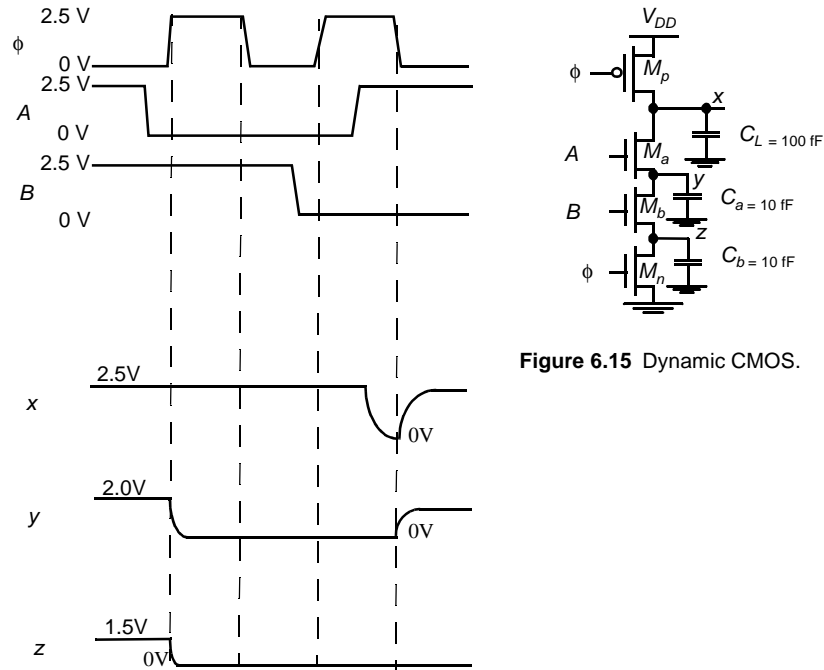

Figure 6.15 Dynamic CMOS.
20. [M, None, 4.3] Sketch the waveforms at x, y, and z for the given inputs (Figure 6.15). You may approximate the time scale, but be sure to compute the voltage levels. Assume that  $V_T = 0.5$  V when body effect is a factor.